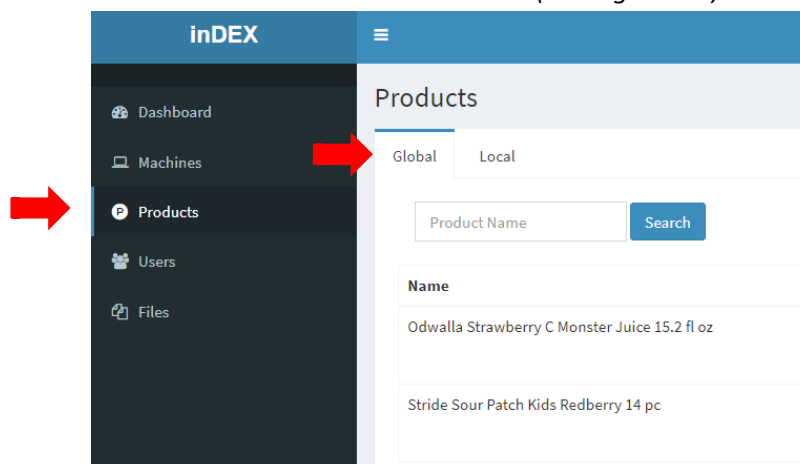

Figure 60
- From the products screen click the Global Products tab (*See Figure 60.*)